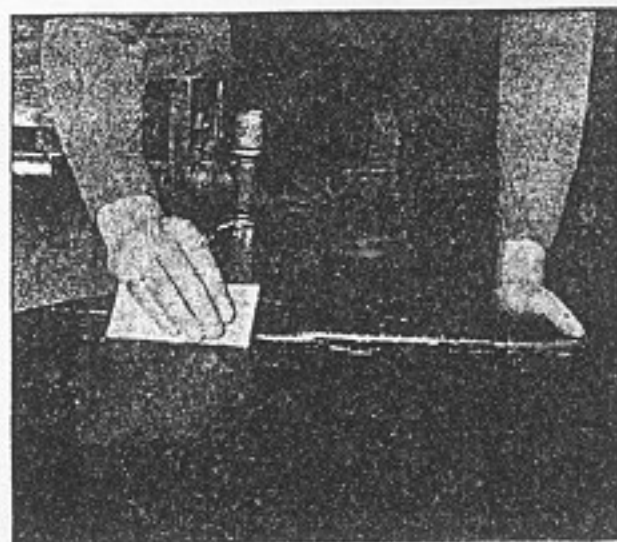

Fig. 325. Scraping lacquered surface before sanding.
4. With a very sharp hand scraper the surfaces are scraped very lightly (Fig. 325). This helps to even up the coats applied and lessens the work of sanding. Scraping, however, may be omitted and the last coat sanded directly.